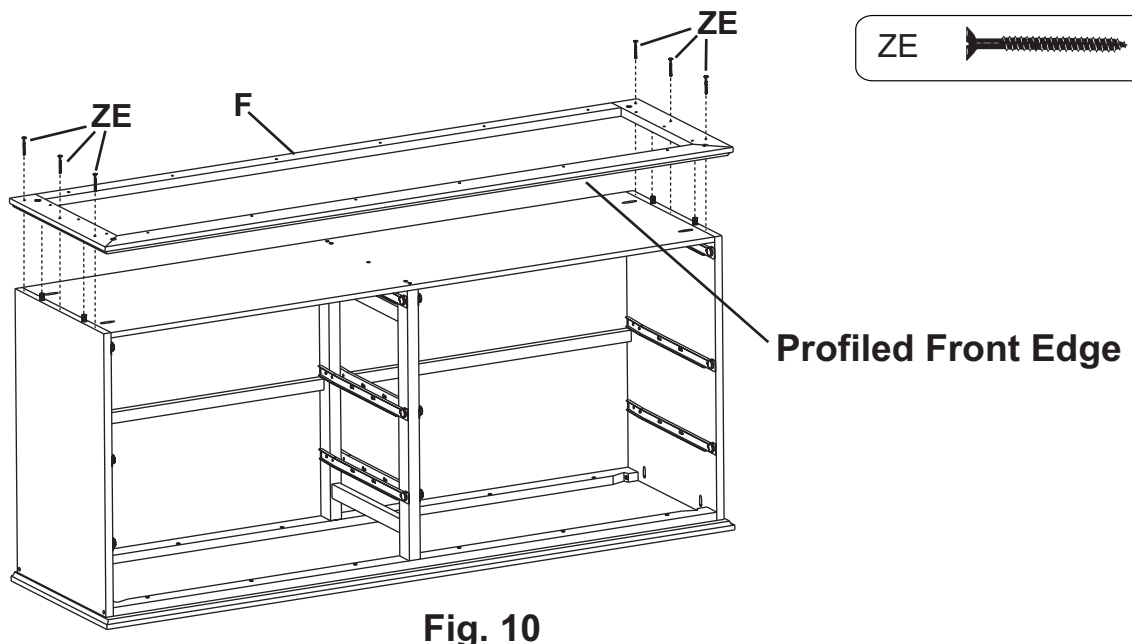

Fig. 9
9. Place the Top (A) profiled edge forward, face-down on a clean protected surface. Attach the case assembly, edge band face forward, to the top by inserting the dowels from the case assembly into the dowel holes in the Top (A). Do not glue, but tap gently with a padded hammer. Using the predrilled holes as guides, secure the case to the top with sixteen #8 x 1-3/16" Pan Head Screws (ZC). See Figure 9.